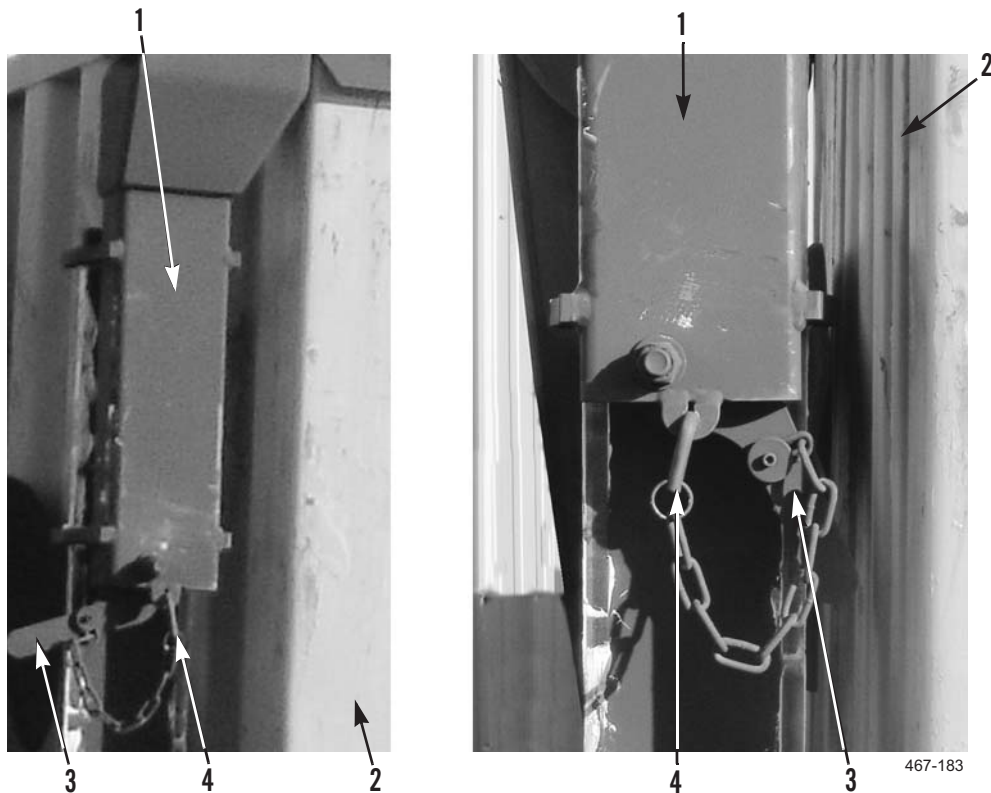

Figure 25. Slide Housing Locking Handles.
1. Remove locking pin (Figure 25, Item 4) and pull upper lock handle (Figure 25, Item 3) out away from container (Figure 25, Item 2).
2. Align hole in upper lock handle (Figure 25, Item 3) with hole in upper lock housing (Figure 25, Item 1) and insert locking pin (Figure 25, Item 4).